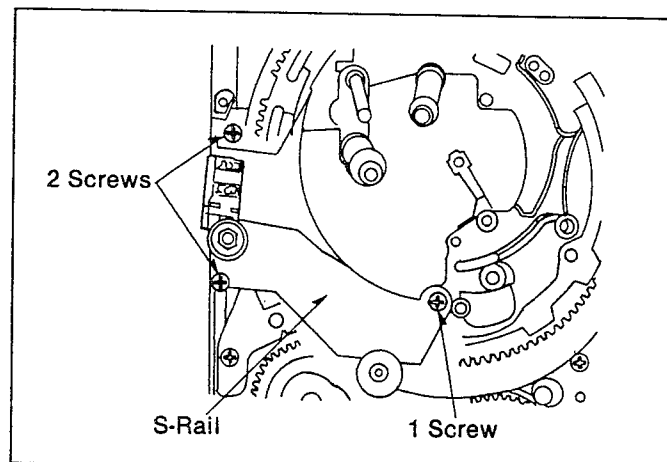

Fig. M13
- (2). Install the S-Rail Unit and then tighten the 3-Screws as shown in Fig.M13.